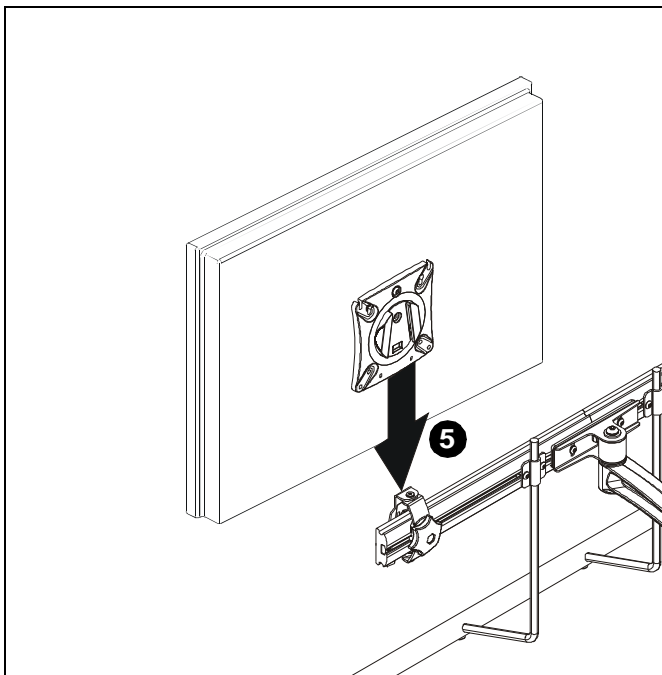

Figure 16
4. Position display with faceplate attached above mount. (See Figure 16)
5. Slide faceplate onto mounting head until quick release tab clicks into place. (See Figure 16)